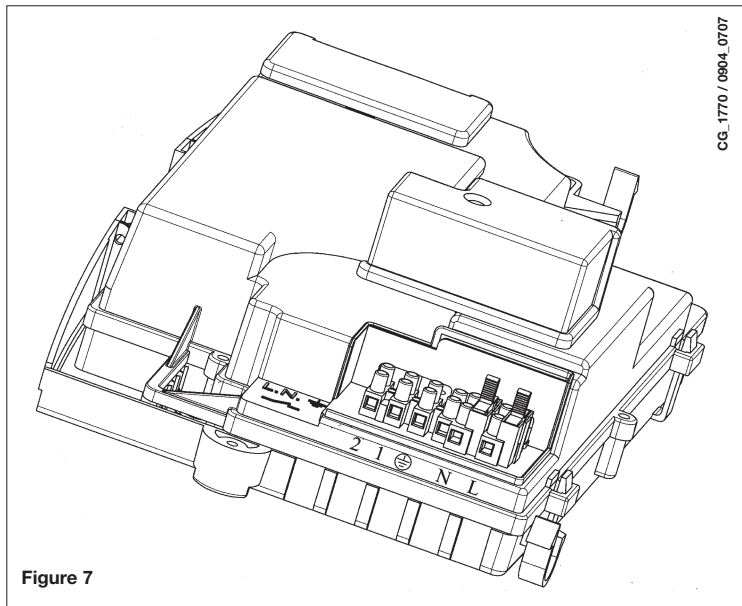

Figure 7
- unscrew the lid and gain access to the wiring (Figure 7).
- reach the power supply terminal block (figure 7);
- connect the room thermostat to the terminals (1) - (2) and remove the jumper.